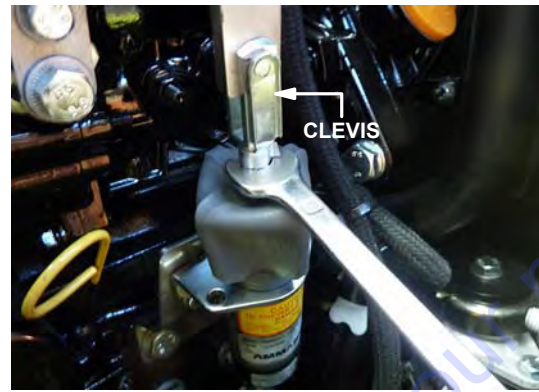

Figure 12. Tighten Jam Nut
8. After the adjustment is completed, tighten the 10 mm jam nut on the clevis head (Figure 12).